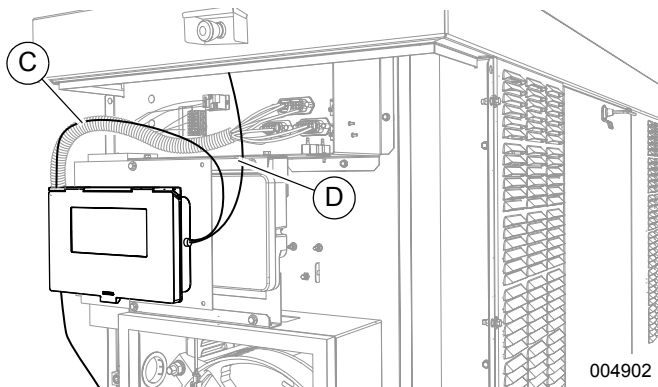

Figure 19 - Wire Routing
6. See **Figure 19**. Route loose end of 36 in. (91 cm) wire (C) along existing harness to left side of control panel.